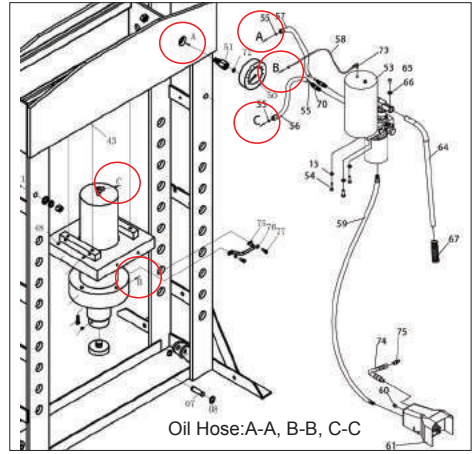
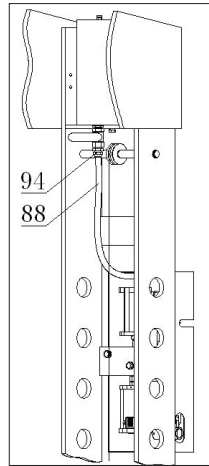
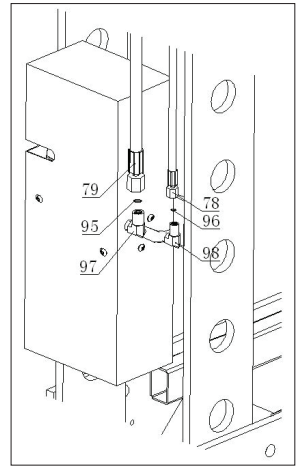

Fig.08
Fig.10
Fig.11
- Assemble oil hose :Fig.08 ( WP75P ), Fig.10 ,Fig.11 ( WP100P ).
• Operate by air: Depress the air foot valve(61, Fig.08)